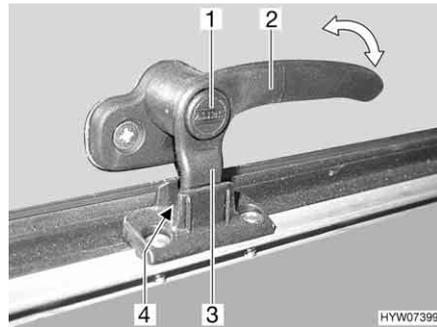
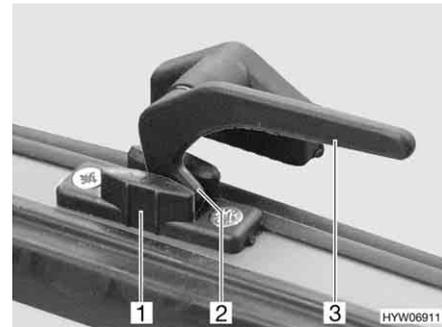

Fig. 69 Catch lever with safety knob in "continuous ventilation" position
Fig. 70 Catch lever in "continuous ventilation" position
- "Continuous ventilation" (Fig. 69 and Fig. 70)
- Press and hold the security button (Fig. 69,1), if present.
- Turn the catch lever (Fig. 69,2 or Fig. 70,3) a quarter turn towards the centre of the window.
- Return the catch lever to its initial position. Move the locking catch (Fig. 69,3 or Fig. 70,2) on the catch lever into the recess of the window catch (Fig. 69,4 or Fig. 70,1).